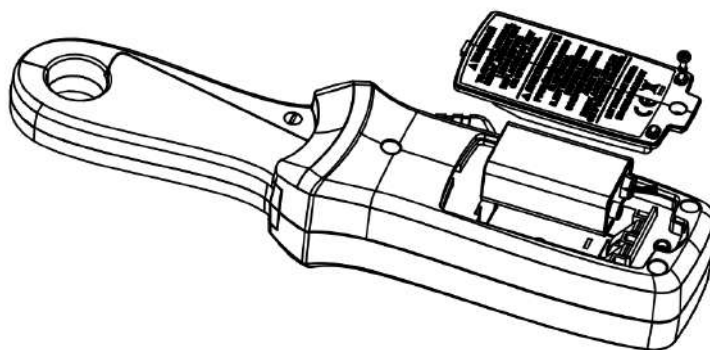

Figure 5
12. Maintenance and Repair (Figure 5)